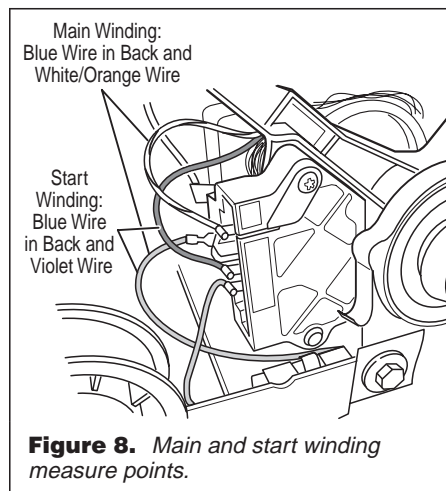

Figure 8. Main and start winding measure points.
5. Using figure 8, check for the resistance values of the motor's Main and Start winding coils as shown below.